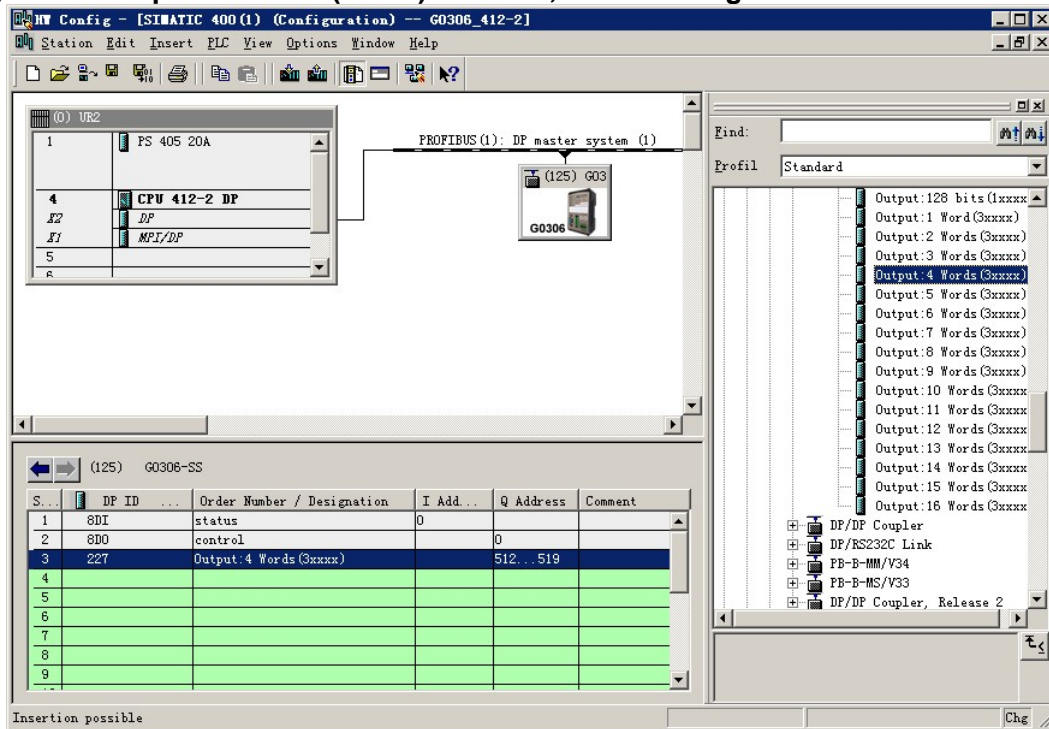

Figure 48 Add "Output: 4 Words (3xxxx)" module, shown as Figure 48
a) Add "Output: 4 Words (3xxxx)" module, shown as Figure 48: